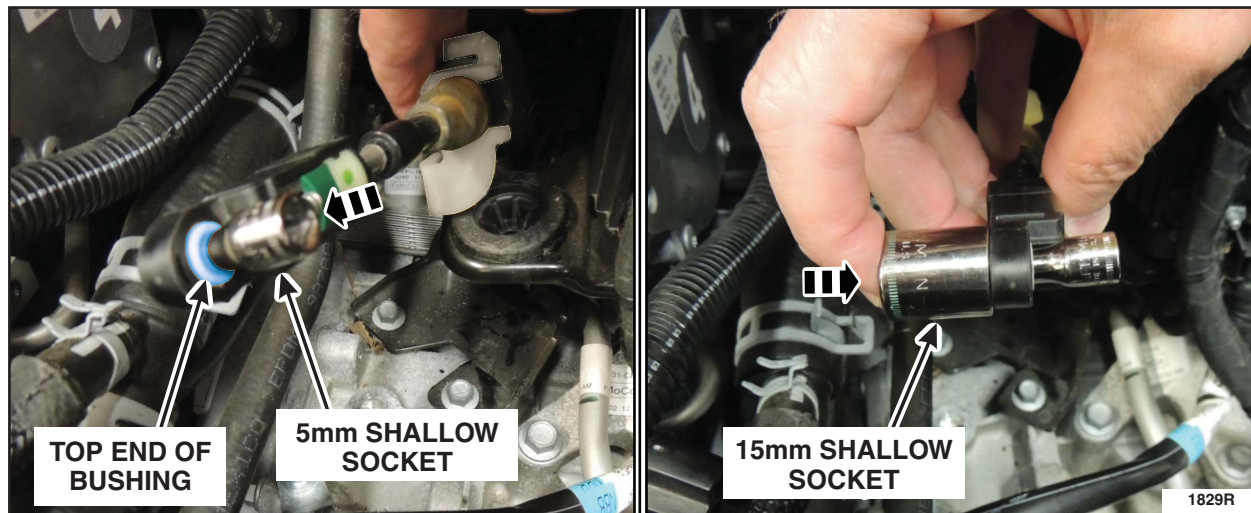

FIGURE 5
- Using a 5mm and a 15mm socket with Straight Jaw Adjustable pliers the bushing can be pressed out of the shifter cable end. The 5mm socket will fit into the small part of the bushing on top, the 15mm will go against the bottom of the shifter cable end, make sure to have socket centered with the bushing to allow clearance of the bushing shoulder as it is being pressed out. See Figures 5 and 6.